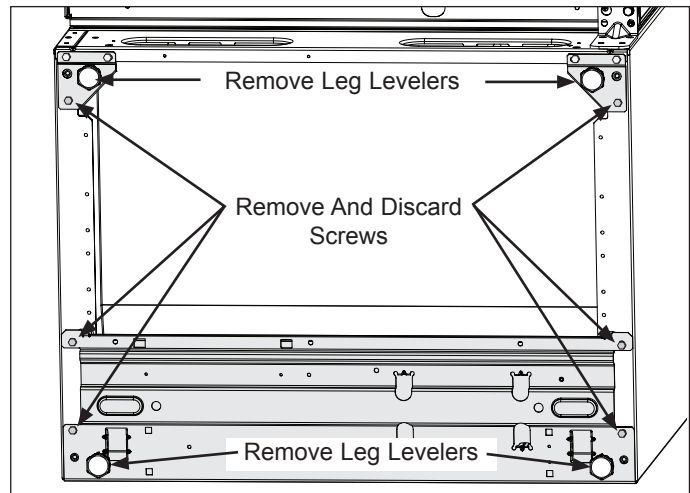

Figure 3
- b. Remove (3) screws from each side and discard. (See Figure 3)